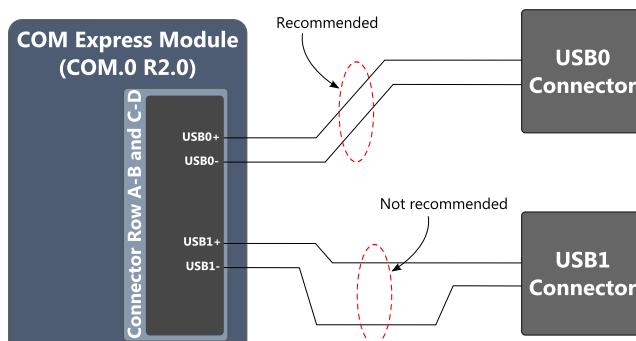

Figure 4-45: USB Differential Signal Routing Example
The layout guidelines for the USB data lines are listed below. And a routing example for two pairs of USB data buses is shown in Figure 4-45.
- Each pair of USB data lines is required to be parallel to each other with the same trace length (see Figure 4-45), and not parallel with other signals to minimize crosstalk.